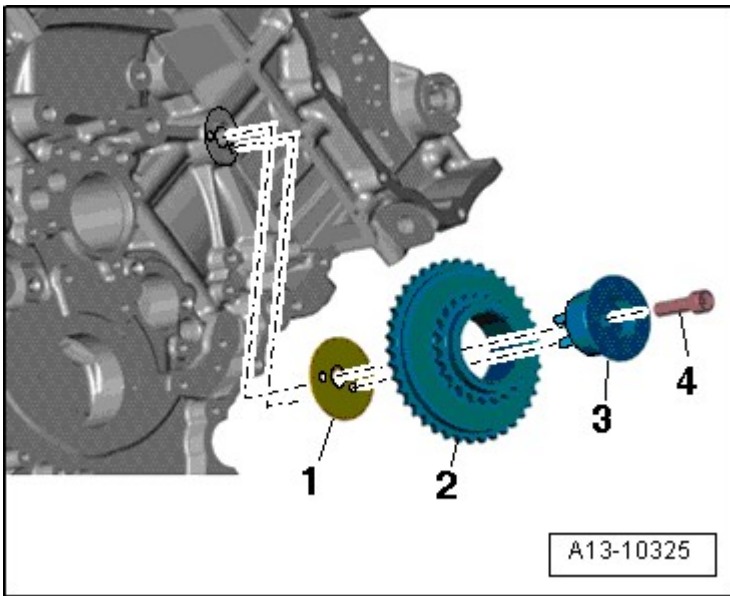

Fig. 16: Locating Camshaft Timing Chain Drive Sprocket Mounting Pins
- Tightening specification, refer to item 10
- Installed position, refer to **Fig. 16**
- Tightening specification, refer to item 5